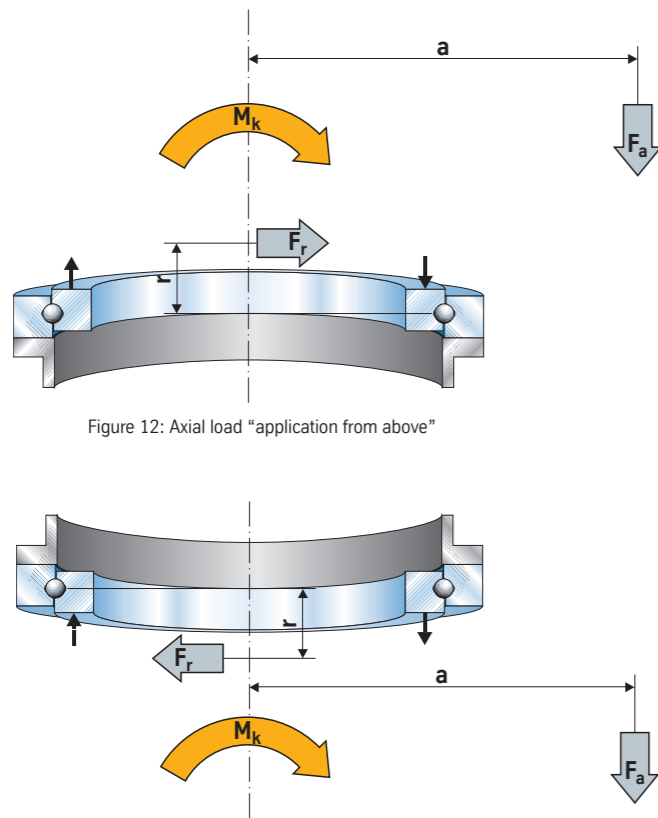

Figure 12: Axial load "application from above"
1. The axial load F_a acts with contact from the top, not "suspended", i.e. the axial operating force F_a from the axial load does not act on the bolts with tension, see Figures 12 and 13.